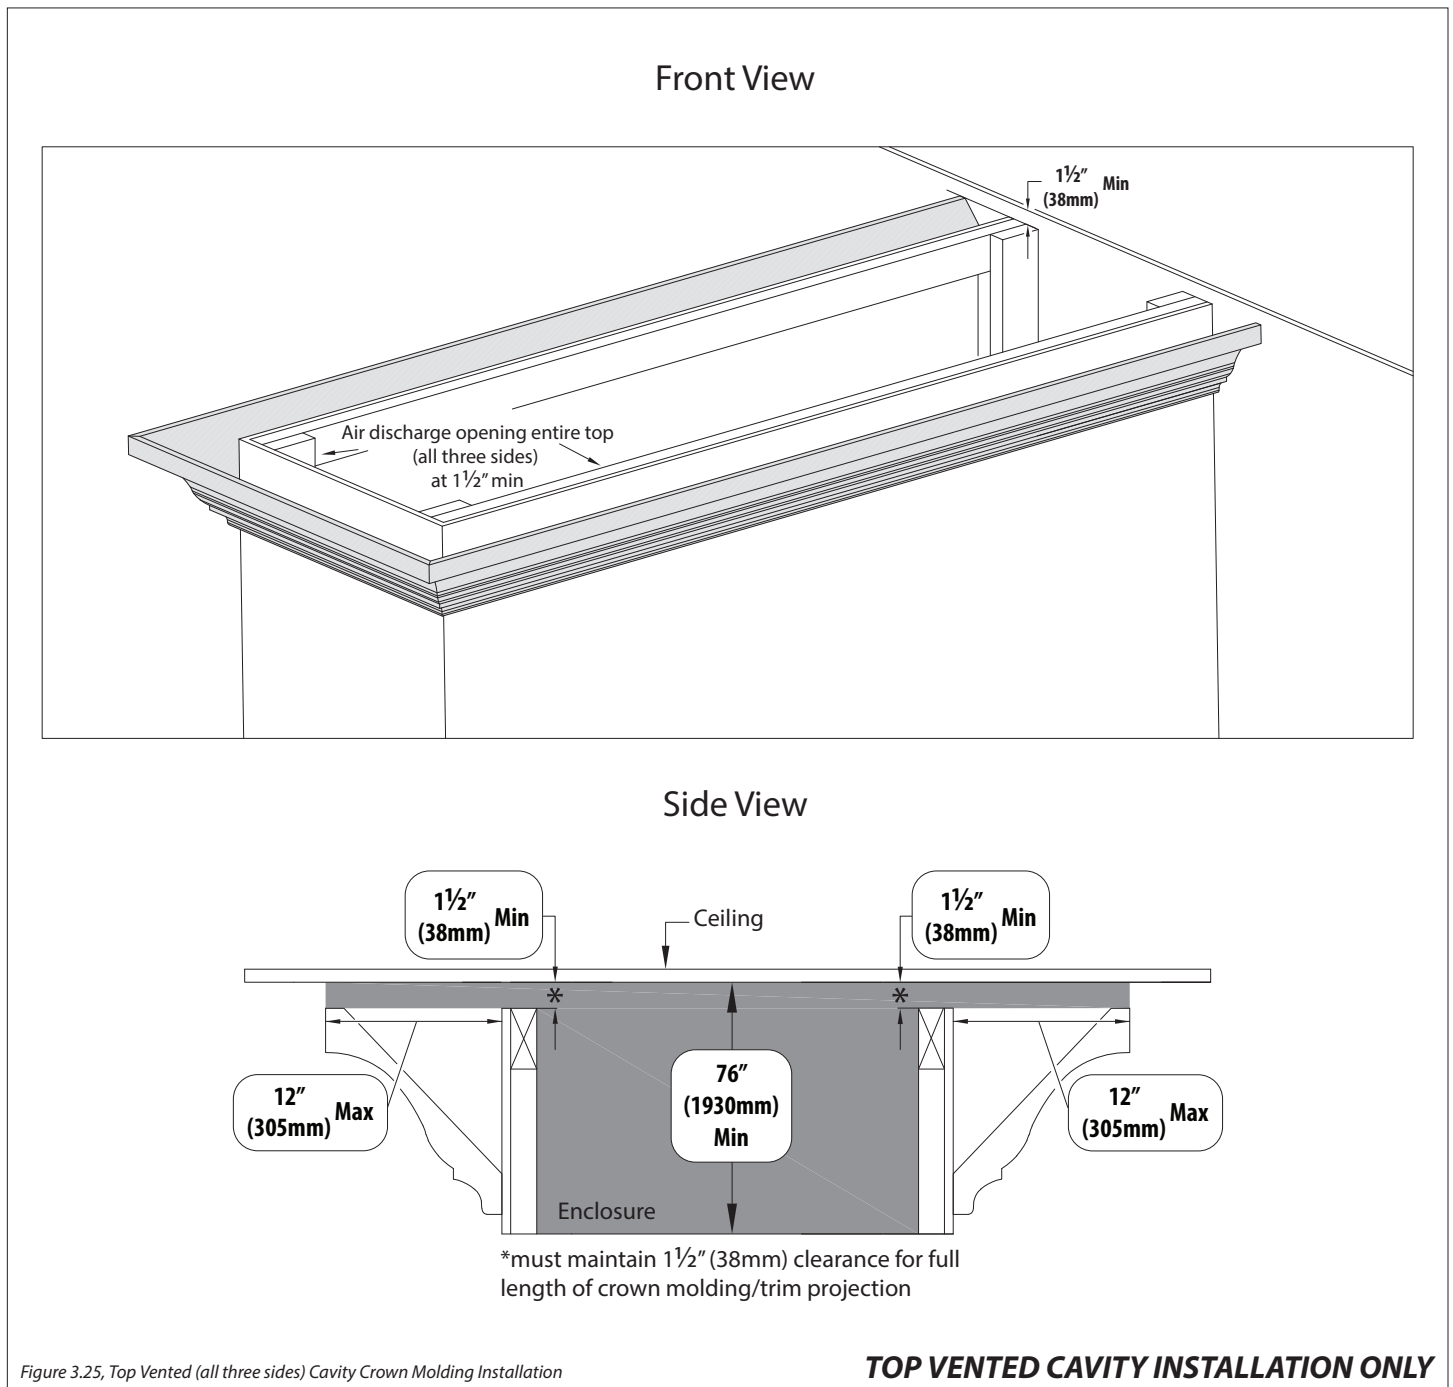

Figure 3.25, Top Vented (all three sides) Cavity Crown Molding Installation
- Figure 3.25 shows the installation of crown molding or similar trim work that goes up to the edge of the air discharge opening. 12" (305mm) is the maximum length of the molding or trim projection and you must maintain 1-1/2" (38mm) clearance for the full length of crown molding/trim projection. This molding or trim cannot decrease the minimum opening requirement.